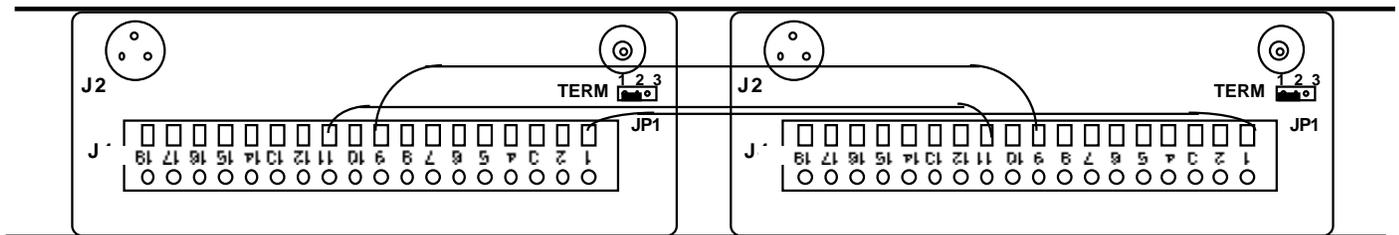

FIGURE 2.6 Model 27XX Rear Panels Showing DC wired together for Use With One Wall Power Supply
2.6.3 DC POWER - Generally the 27XX series will have one wall power supply that can be connected to J2 of either module and have pins 9 (+15 Volts DC), pins 11 (-15 Volts DC) and pins 1 (ground) connected together as shown in Figure 2.6 below. You can power the modules from individual power supplies by ordering another one from Cross Technologies, Inc. and disconnecting the jumpers that connect these pins.